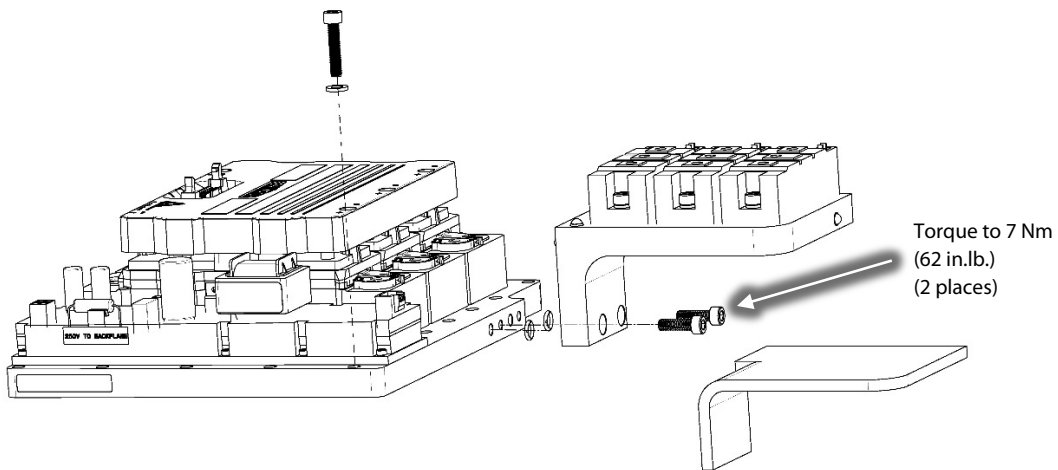

Figure 22 – SCR Cooling Manifold Installation
2. Reinstall the SCR Cooling Manifold to the Inverter cooling manifold using the new fasteners and torque to 7 Nm (62 in.lb.). Refer to Figure 22 (SCR Cooling Manifold Installation).